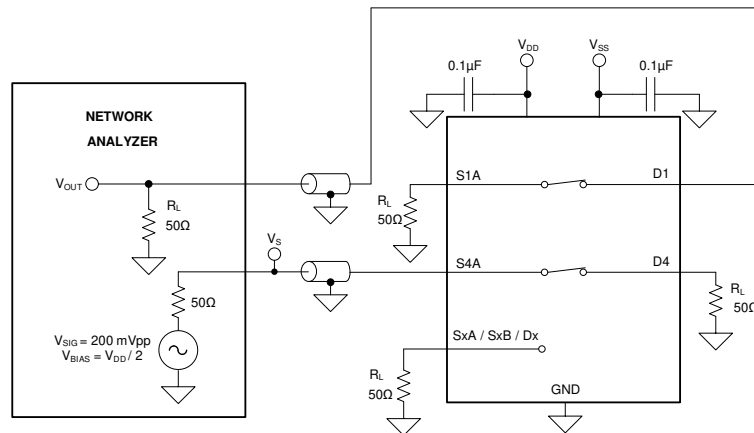

**Figure 7-8. Off Isolation Measurement Setup**
Off isolation is defined as the ratio of the signal at the drain pin (D) of the device when a signal is applied to the source pin (Sx) of an off-channel. Figure 7-8 shows the setup used to measure, and the equation used to calculate off isolation.